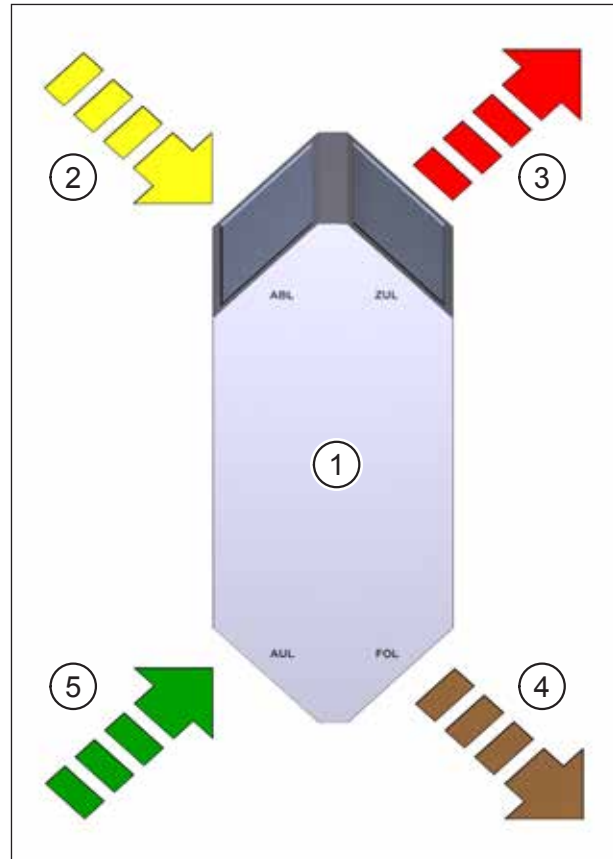

Fig. 10: How the cross-counterflow plate heat exchanger works
The channels on the cross-counterflow plate heat exchanger (item 1 in Fig. 10) are designed so that the air flows move in opposite directions. This guarantees the greatest possible exchange of thermal energy.
In the winter, the highly thermally conductive plates transfer the heat from the extract air flow (item 2 in Fig. 10) to the supply air flow (item 3 in Fig. 10). The cooled extract air is carried to the outside as exhaust air (item 4 in Fig. 10).